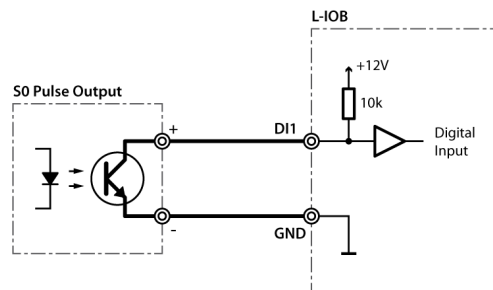

Figure 214: S0 pulse meter connected to DI
S0 pulse meters must be connected to digital inputs (DI) as shown in Figure 214.